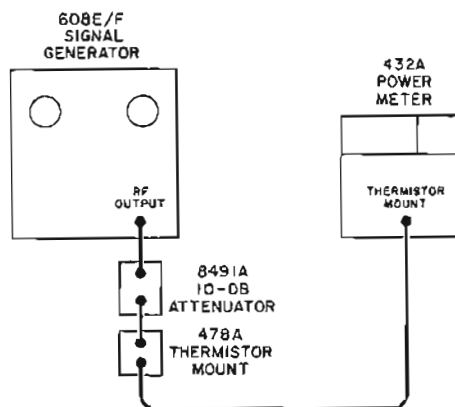

Figure 5-5. RF Output Test Setup
- a. Connect signal generator in test setup illustrated in Figure 5-5.
a. Connect signal generator in test setup illustrated in Figure 5-5.
a. Connect signal generator in test setup illustrated in Figure 5-5 omitting 8491A 10-DB Attenuator.